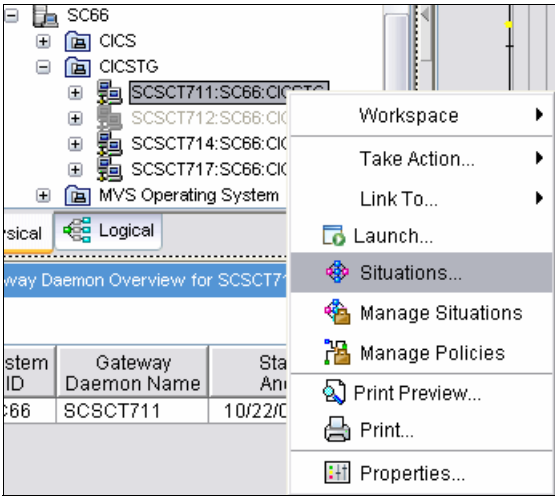

Figure 8-21 Selecting the situation editor
2. We right-clicked the instance and selected **Situations**, as shown in Figure 8-21.